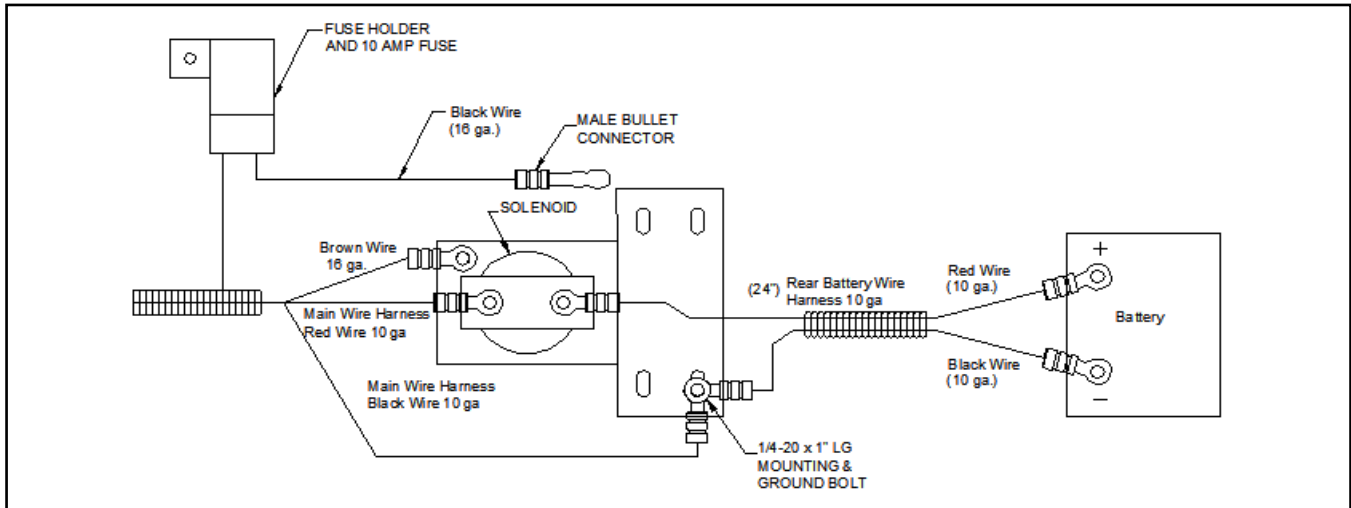

Fig. 3.7 (Main Harness and Battery Connection)
- 3.7** Route the Red 10 ga. wire from the Main wire harness to the post on the solenoid as shown in Fig 3.7. Then attach the Red 10 ga. wire from the rear battery wiring harness to the opposite post on the solenoid. Attach the ring terminal end of the 16 ga. Brown wire onto the smaller stud at the base of the solenoid and tighten with nut supplied.